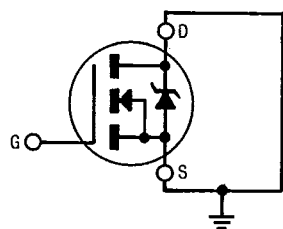
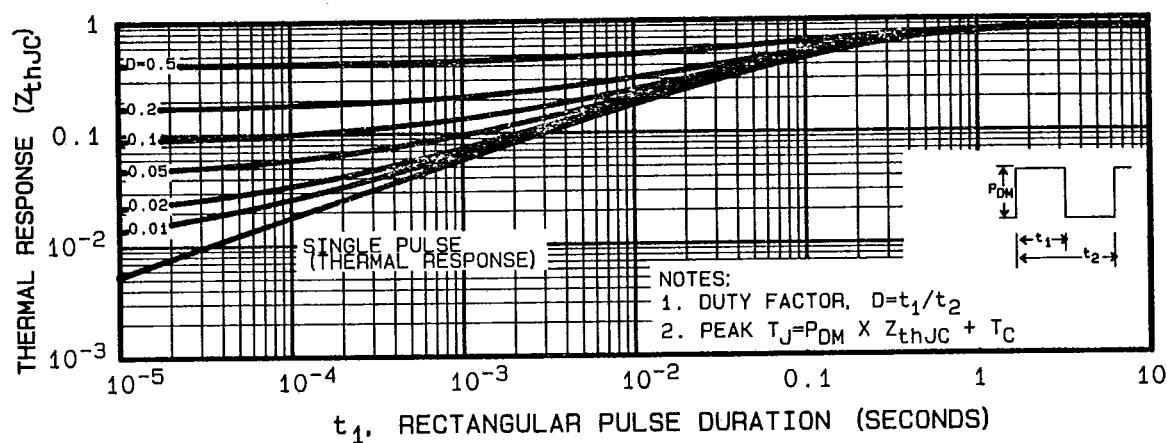

Fig. 11a — Gate Stress of V_{GS} Equals 12 Volts
Fig. 17 — Maximum Effective Transient Thermal Impedance, Junction-to-Case Vs. Pulse Duration
The two test circuits used during low dose rate exposures are shown in figure 11. The first test circuit biases the gate electrode at 12 volts with respect to the drain and source electrodes (see fig. 11a). In general, a
② Repetitive Rating; Pulse width limited by maximum junction temperature (see figure 17)
③ @ $V_{DD} = 50V$, Starting $T_J = 25^\circ C$, $L = 5.3$ mH, $R_G = 25\Omega$, Peak $I_L = 19A$.
④ $I_{SD} \leq 19A$, $di/dt \leq 180$ A/ μ s, $V_{DD} \leq BV_{DSS}$, Suggested $R_G = 6.2\Omega$
⑤ Pulse width ≤ 300 μ s; Duty Cycle $\leq 2\%$
⑥ High Total Dose Irradiation with V_{GS} Bias. +12 volt V_{GS} applied and $V_{DS} = 0$ during irradiation per MIL-STD-750C, method 1019. (See figure 11a)